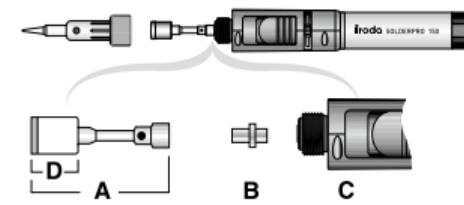

Fig.10
2. Unscrew **Nozzle Assembly (A)** from the **Torch Body (C)**. (Fig. 10) Pliers may be used to lightly grasp the shank in order to loosen it. Do not grasp and turn the **Ceramic Head (D)**
3. Carefully remove **Orifice connector (B)** by lifting it out of the torch body. Note that the shorter side of Orifice Connector fits into the Torch Body.
5. Replace new (or clean) Orifice connector (B) remembering to insert the shorter side into the Torch Body.